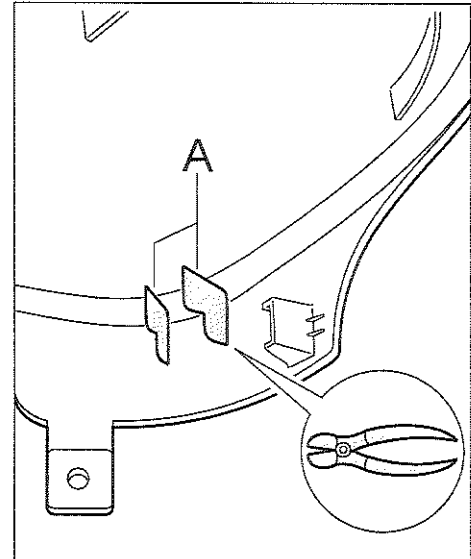

Figure 11
- 4.3.1 Remove bars ⇒ *Figure 11 -A-* with side cutters.